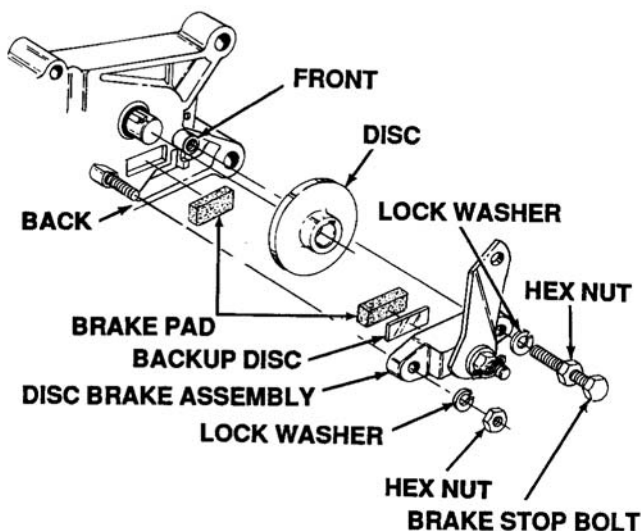

Figure 6-30. Disc Brake and Disc
7. Remove disc brake and disc by removing a hex nut and lock washer on the rear of brake. Loosen hex nut on brake stop bolt. Remove the brake stop bolt, nut and lock washer. See Figure 6-30.